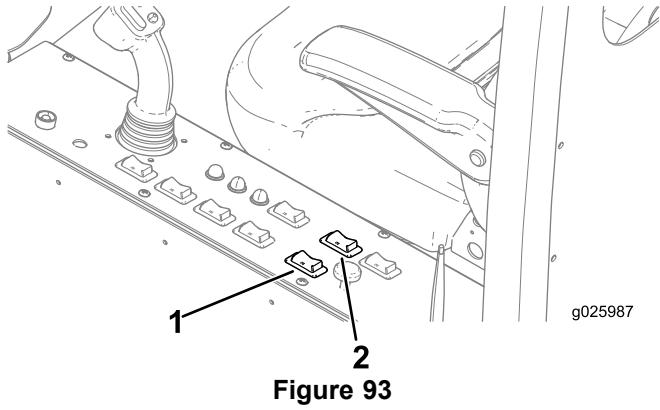

Figure 93
1. Push back on the swing rocker switch (until the cab stops) to swing the cab to the drill position (Figure 93).
2. Push back on the rotate rocker switch to rotate the cab to the desired drill position (Figure 93).
1. Push forward on the rotate rocker switch (until the cab stops) to rotate the cab to the transport position (Figure 93).
2. Push forward on the swing rocker switch (until the cab stops) to swing the cab to the transport position (Figure 93).